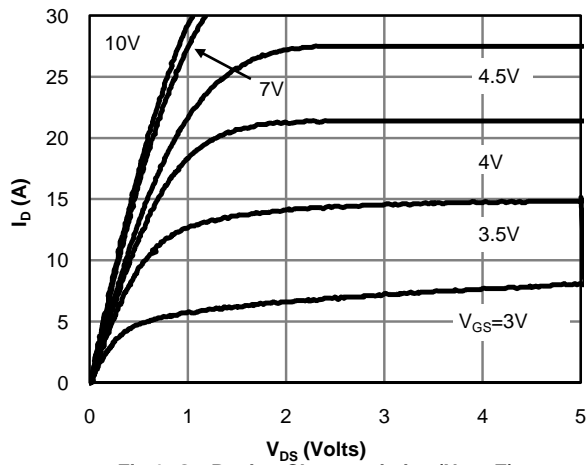

Fig 1: On-Region Characteristics (Note E)
E. The static characteristics in Figures 1 to 6 are obtained using  $<300\mu\text{s}$  pulses, duty cycle 0.5% max.